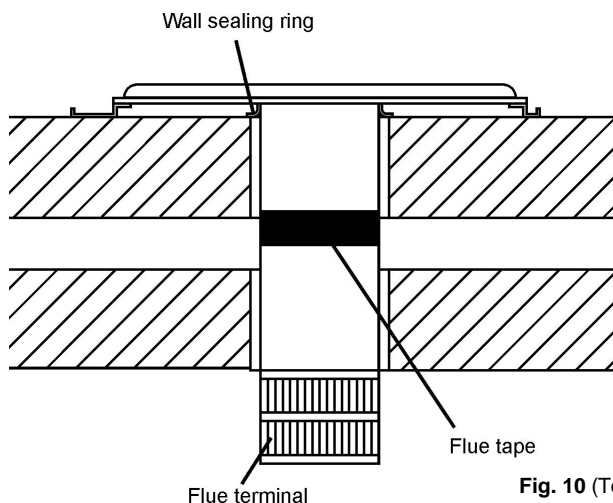

Fig. 10 (Top View)
4. Ensuring that the appliance is level, secure it to the wall using four suitable screws and washers. Check that the wall sealing ring is correctly positioned and seals against the wall (Fig. 10).
5. Ensure that the flue terminal protrudes sufficiently on the outside wall face (Fig. 10). Make good as appropriate.